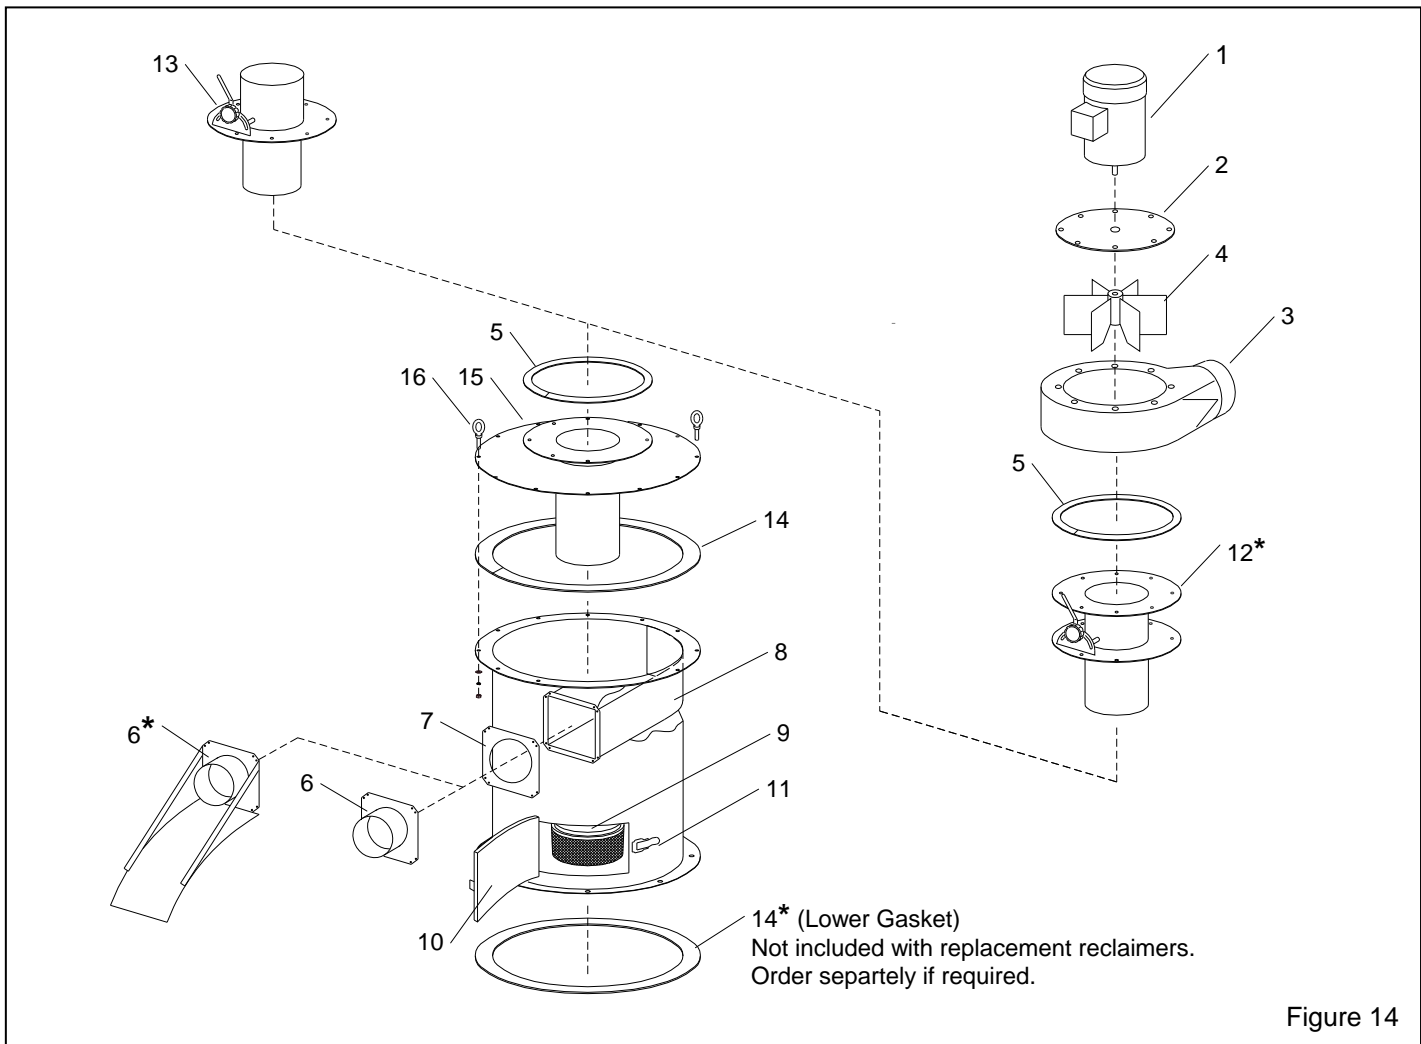

Figure 14
14.2 Reclaimer Assemblies, Figure 14